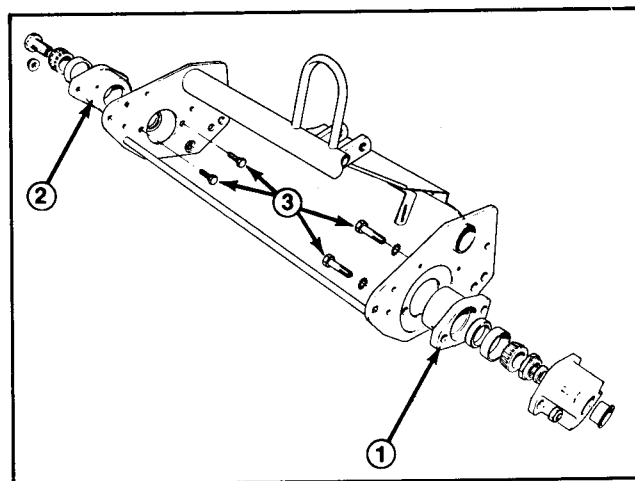

Figure 36
3. Remove machine screws securing bearing housing on each end of cutting unit (Fig. 36). The machine screw heads will have to be cut off before the screw can be completely removed: